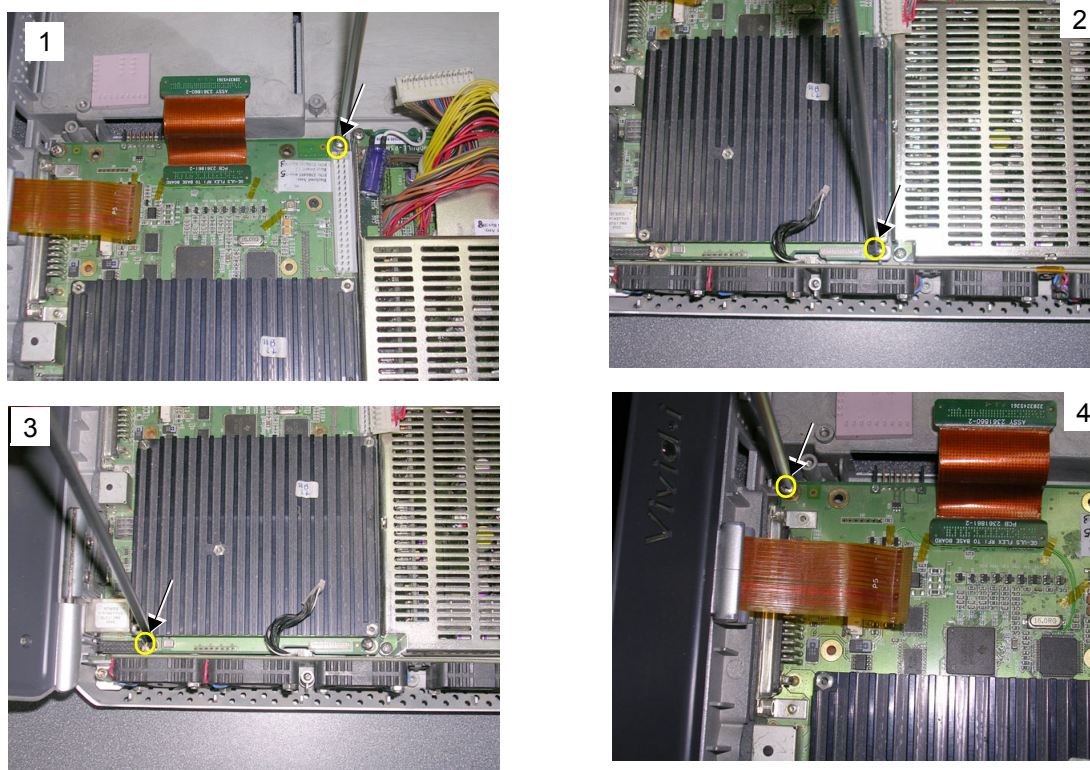

Figure 8-54 Removing the Screws from the BEP
- 2) Check that the BEP is seated correctly then return and fasten the four screws (previously removed) to secure the BEP to the Bottom Assembly - refer to Figure 8-54 on page 8-47.